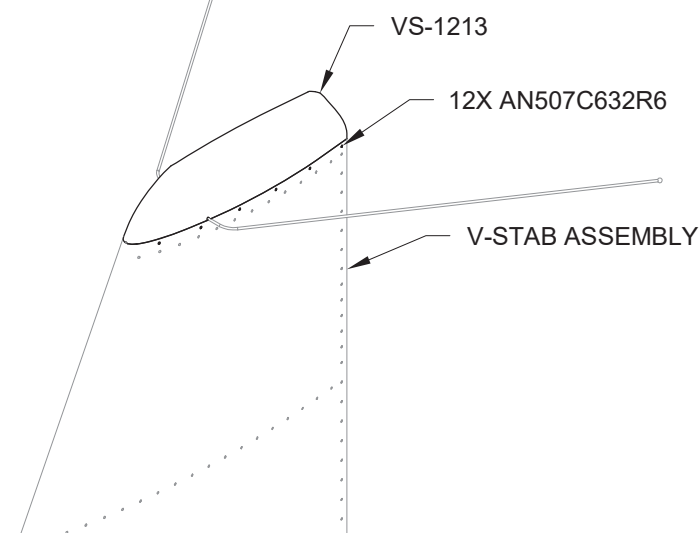

FIGURE 3: INSTALLING THE V-STAB FAIRING
Step 4: Reinstall the VS-1213 onto the V-stab assembly as shown in Figure 3.